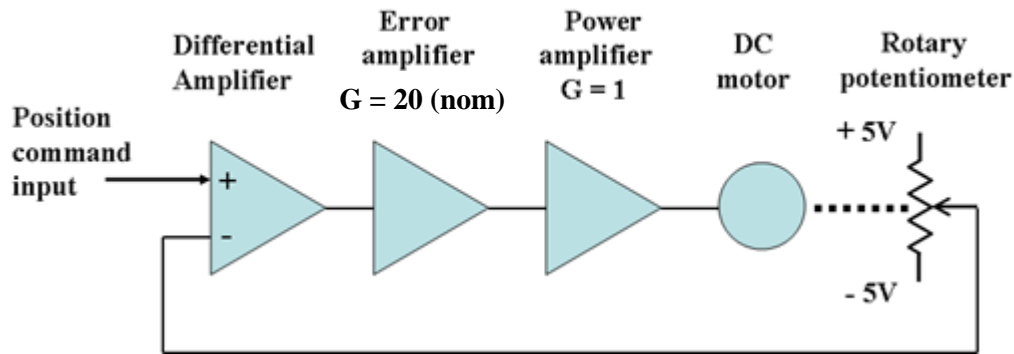

Figure 1: Closed-loop DC motor control using a servo potentiometer.
- b) Connect the closed loop DC motor control circuit shown in figure 1 on the *DigiAc* system using the servo pot as the feedback element.